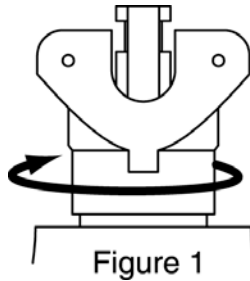

Figure 1
1. Rotate crimping head adapter fully -- clockwise (see Figure 1).